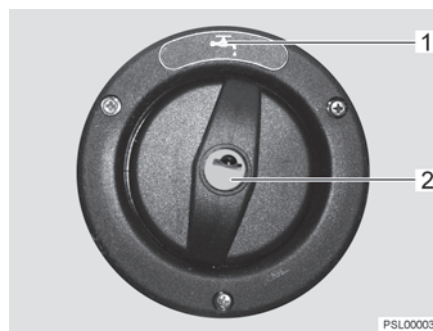

Fig. 44 Cap for the drinking water filler neck
▷ The drinking water filler neck is indicated by the symbol "☕" (Fig. 44,1).
- Insert the key in the locking cylinder (Fig. 44,2) and turn it in an anticlockwise direction.